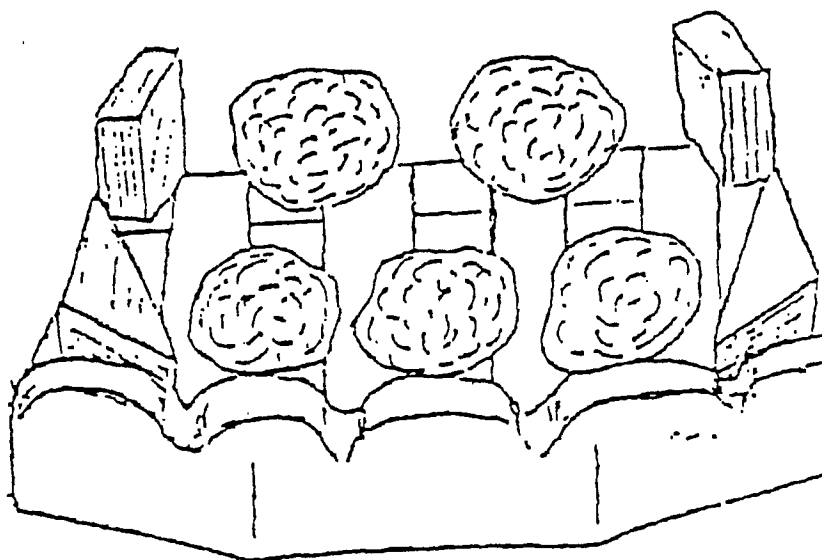

Fig. 12
2. Place 2 medium round between the centre gaps of the coal support shelf with 1 medium/small coal placed at each side. Fig. 12.